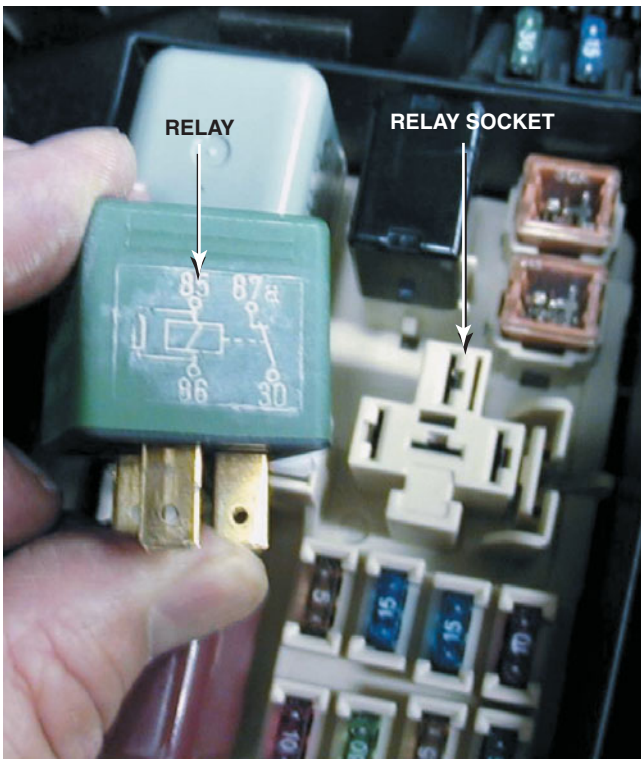

FIGURE 45-27 A typical relay showing the schematic of the wiring in the relay.
- The coil winding represents the control circuit which uses low current to control the higher current through the other terminals of the relay. ● **SEE FIGURE 45-27.**